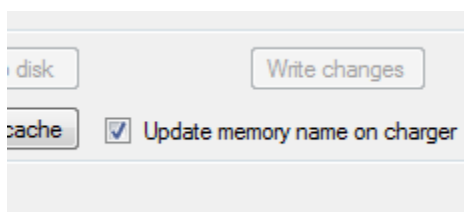

Figure 20
- If you do not want to change the name in the charger, uncheck the checkbox before you write the changes, Figure 20.